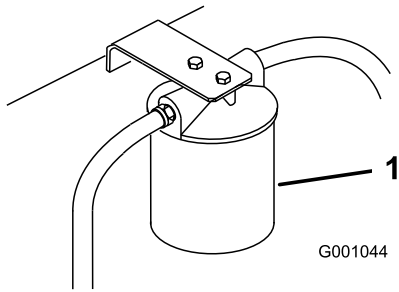

Figure 70
- Place drain pan under filter, remove the old filter and wipe the filter adapter gasket surface clean (Figure 70).